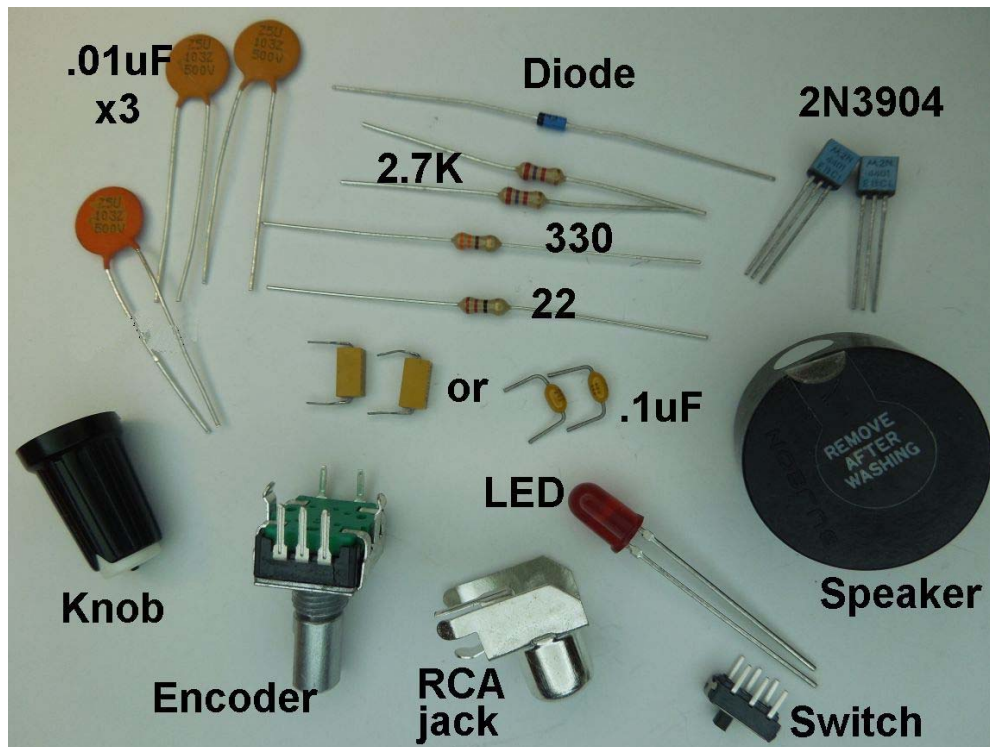

Figure 3 - MTB component identification
- ___ Install and solder two .1uF and three .01 uF capacitors. Use figure 3 as a guide.
- ___ Install diode D1 observing black polarity stripe. Use figure 3 as a guide.